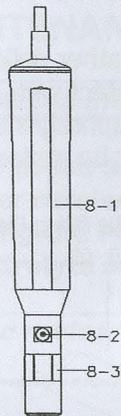

Fig. 2
- 1) Unscrew the " Probe head " ( 8-3, Fig 2 ).
- 4) Screw the " Probe head " ( 8-3, Fig 2 ) into the probe body.